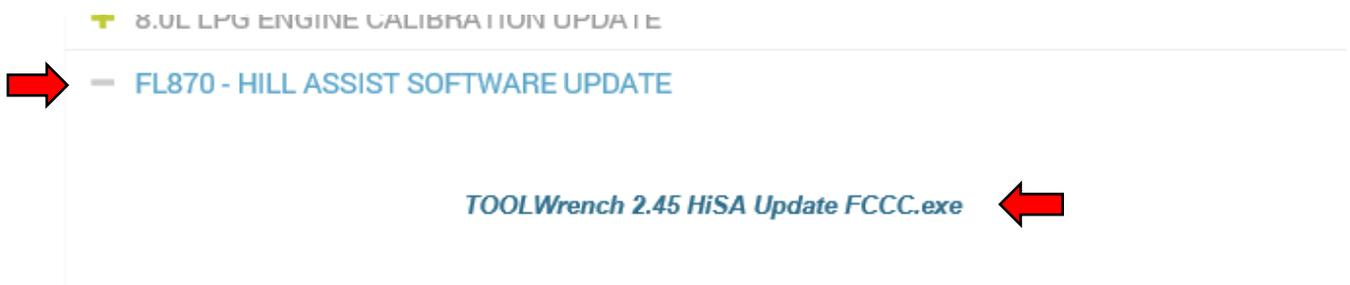

Fig. 3, Selecting the File Link
5. Scroll down to the "FL870 Hill Assist Update" and select the "+" symbol, then select the ToolWrench 2.45HiSA Update FCCC.exe link. See Fig. 3.